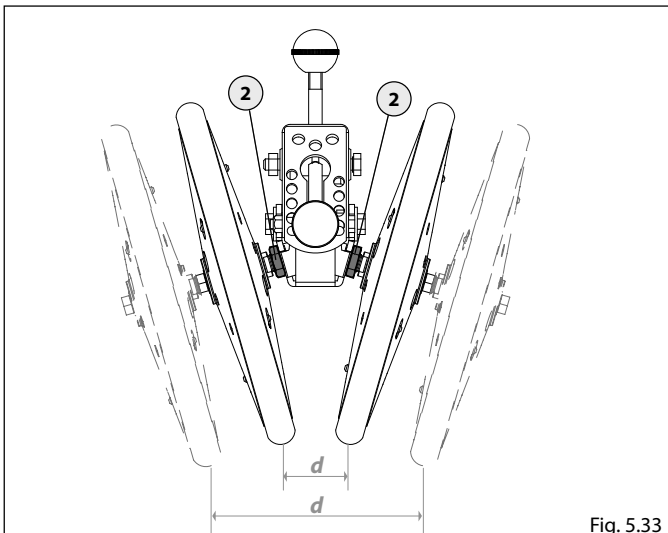
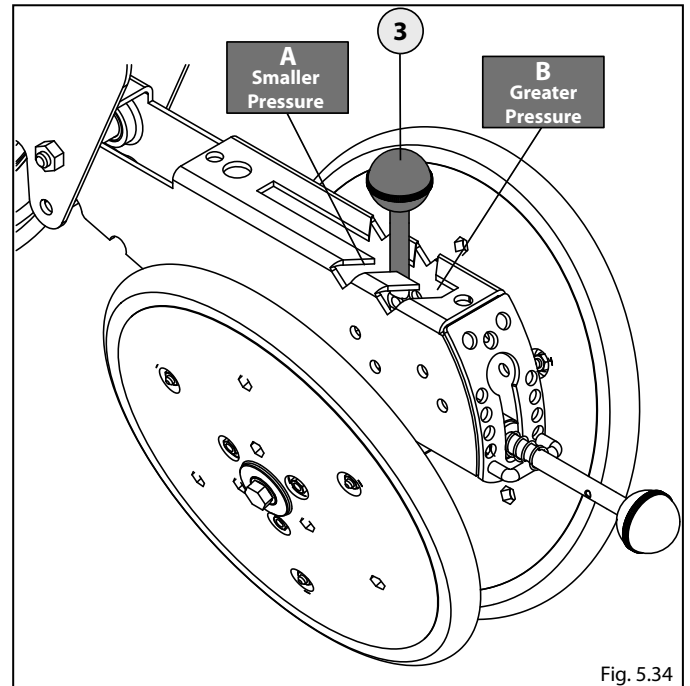
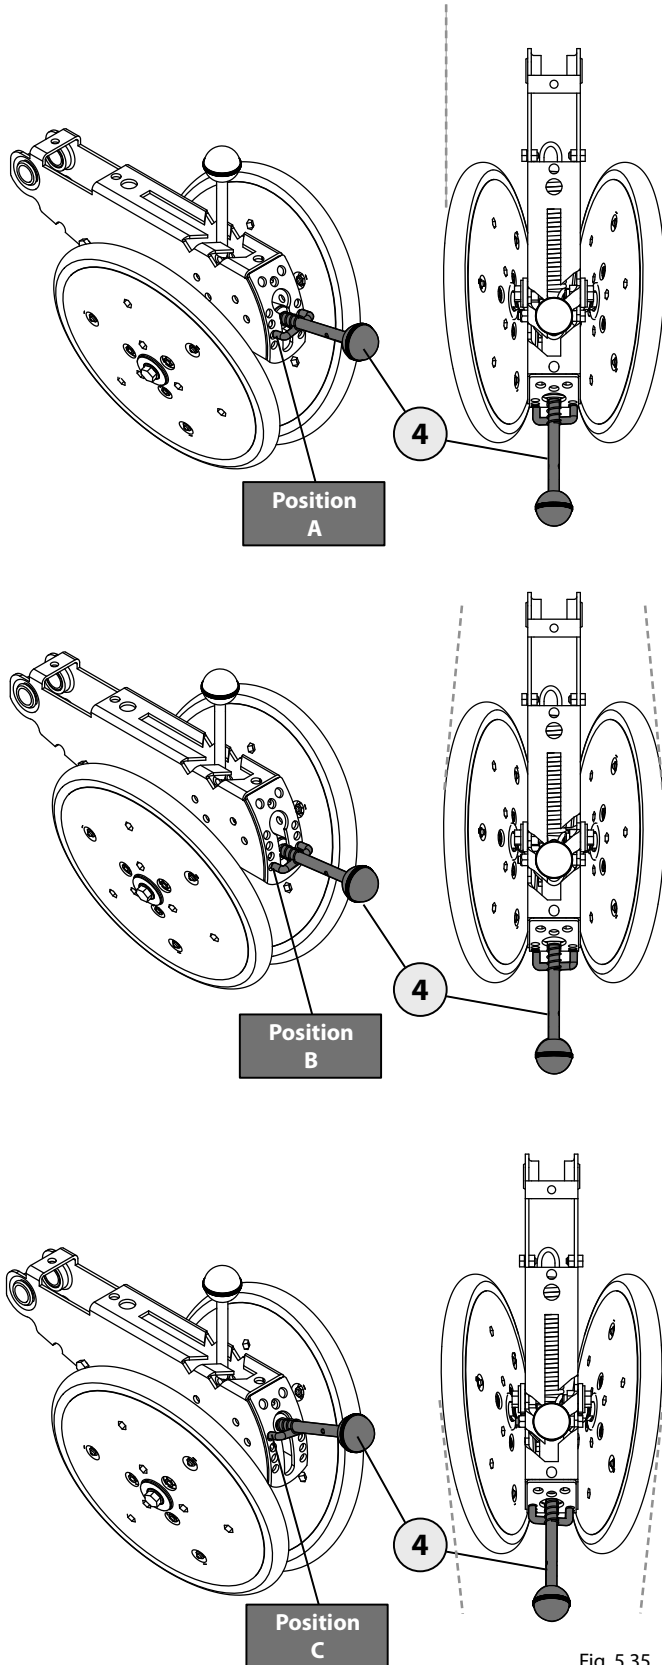

Fig. 5.33
Fig. 5.34
Fig. 5.35
These wheels can be adjusted as to distance **d** (Fig.5.33) of the wheels from the furrow axle, as to the pressure (Fig.5.34) they apply on the ground or as to toe-out (Fig.5.35).
- Loosen nuts **2** (Fig.5.33).
- Screw nuts **2** (Fig.5.33).
- To adjust the pressure of the two "V" wheels on the ground shift handle **3**, the one between the wheels (Fig.5.34).
To adjust wheel toe-out, turn handle **4** as specified in (Fig.5.35.a-b-c).